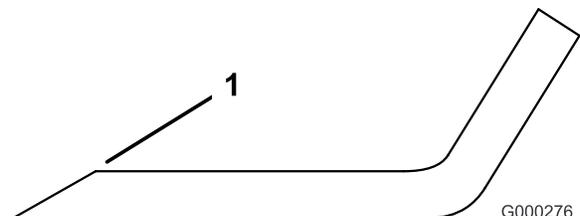

Figure 102
1. Use a file to sharpen the cutting edge at both ends of the blade (Figure 102).